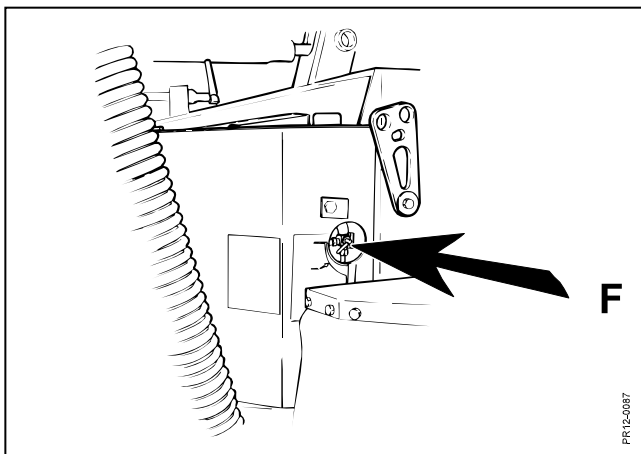

Fig. 5-19
- Fig. 5-19** When the machine is started, turn on the oil by turning the tap at **F**, so that it is approx. half-open. **Remember to close again when the machine is stopped.**